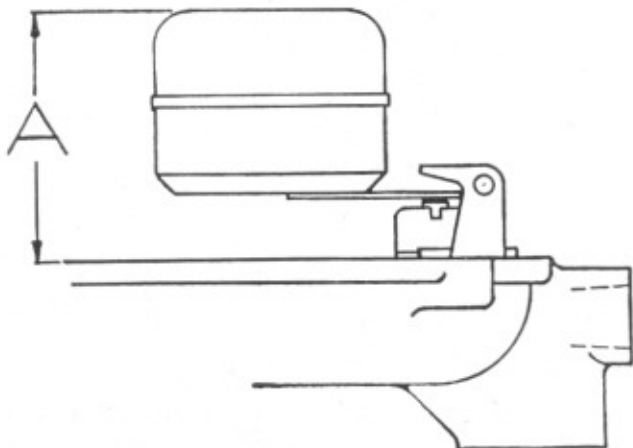

Figure 3
17. Replace idling jet (5) using a small screwdriver (no gasket required).
22. Check position of float to obtain correct fuel level, as shown in Figure 3. The A dimension should be $1\frac{5}{16}$ " plus or minus $\frac{3}{64}$ ". (Move the gasket to one side while making the measurement.)
23. Place the venturi (1) in position in the throttle body. **NOTE:** 161 Series venturi has a locating boss that fits into a groove in the throttle body.
26. Install idling adjusting screw (6) and spring.